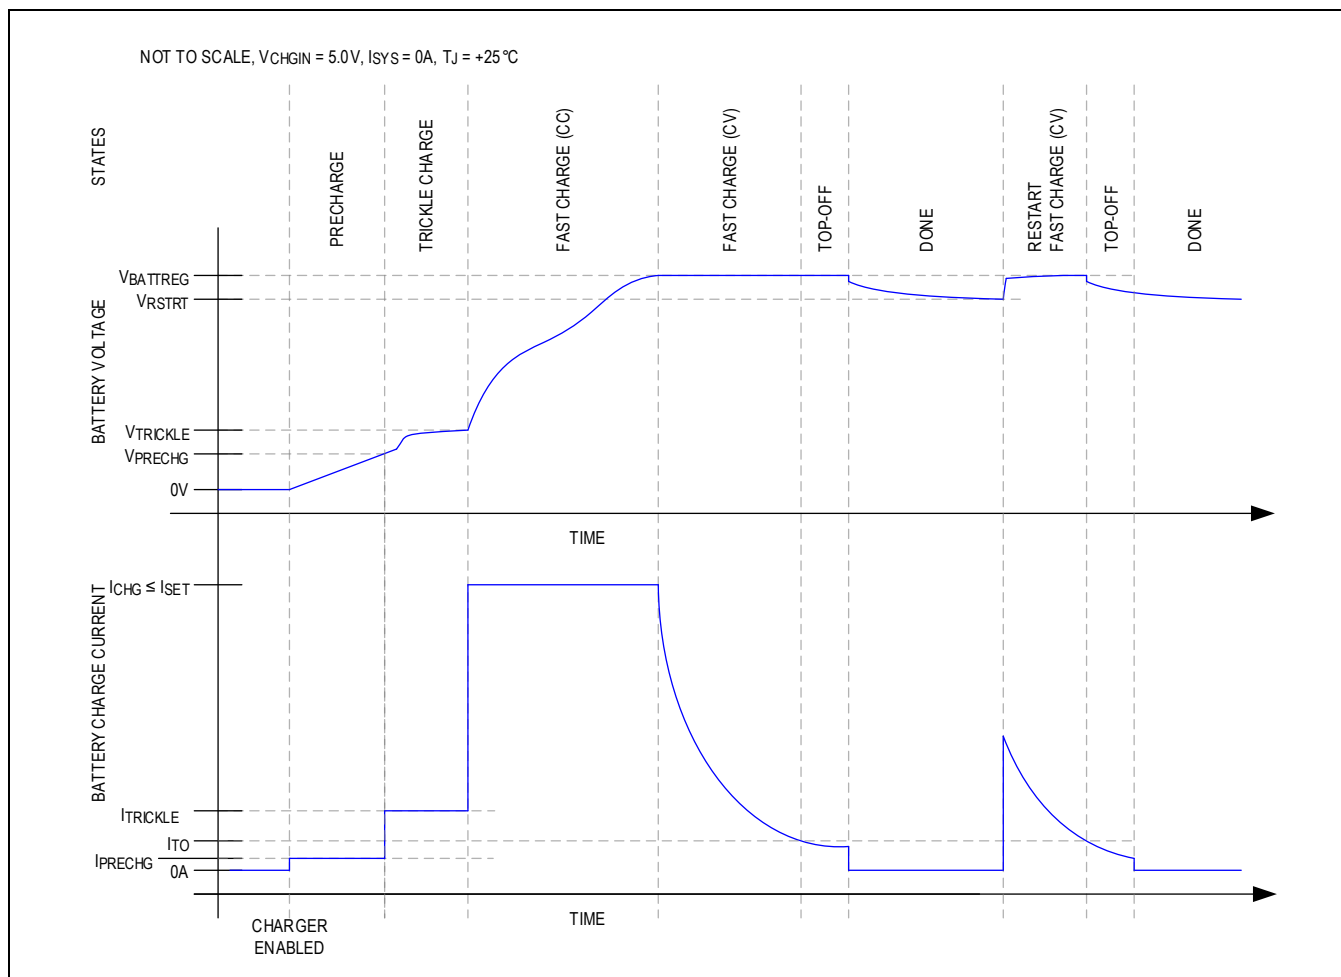
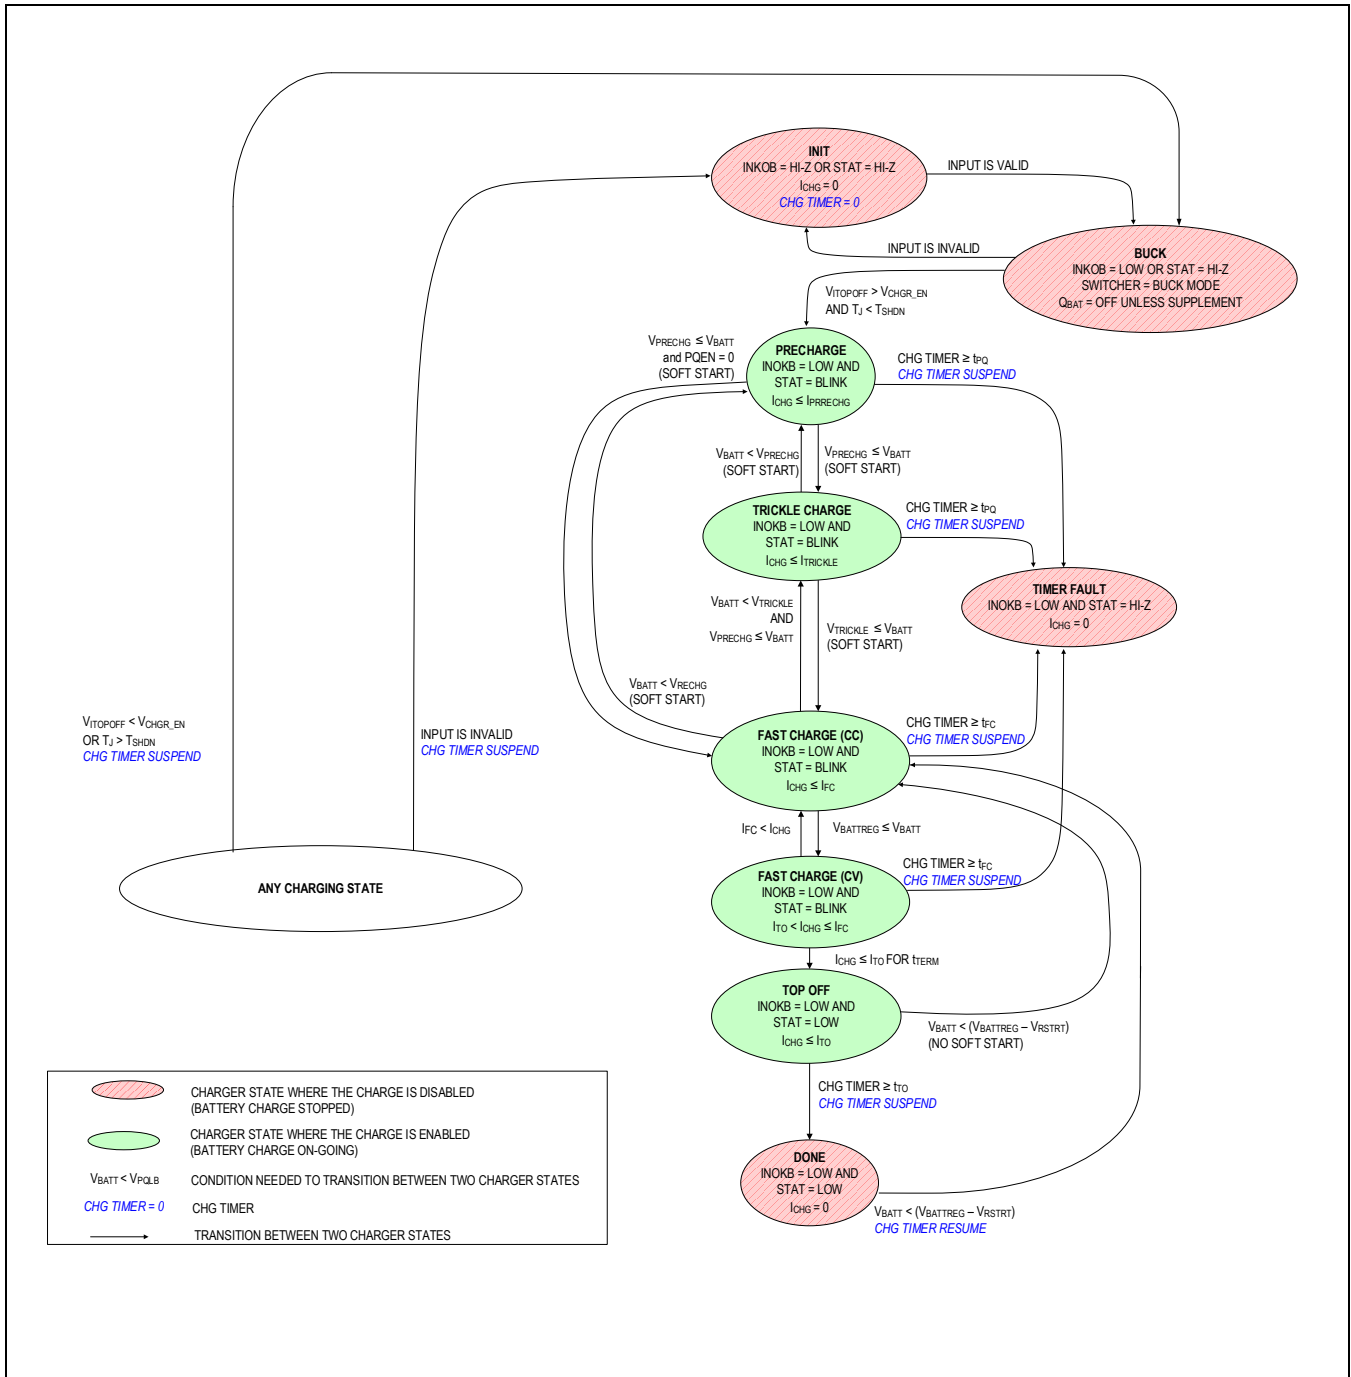

Figure 5. Li+/Li-Poly Charge Profile
Figure 6. Charger State Diagram
The MAX77751 utilizes several charging states to safely and quickly charge batteries, as shown in Figure 5 and Figure 6. Figure 5 shows an exaggerated view of a Li+/Li-Poly battery progressing through the following charge states when there is no system load and the die and battery are close to room temperature: precharge → trickle → fast-charge → top-off → done.
From any state shown in Figure 6 except thermal shutdown, the INIT state is entered whenever the charger inputs that CHGIN is invalid or the charger timer is suspended.
The chip has a state where battery charging is disabled while the charger input CHGIN is valid. The state is called buck state. Entering or leaving buck state is controlled by the voltage of the ITOPOFF pin. If the voltage of this pin is pulled down by an external device (i.e., MCU) under  $V_{CHGR\_EN}$ , the chip goes to the buck state from any state if CHGIN is valid, as shown in Figure 6. In the buck state, charging is disabled, which means  $Q_{BAT}$  is off, unless it is in supplement mode. If the voltage of this pin is over  $V_{CHGR\_EN}$ , the chip gets out of the buck state and resumes charging. Note that only when CHGIN is valid, charging can be enabled or disabled. Therefore, the external device (i.e., MCU) should check using the INOKB signal if CHGIN is valid before trying to enable or disable charging.
As shown in Figure 6, the precharge state occurs when the battery voltage is less than  $V_{PRECHG}$ . In the precharge state, charge current into the battery is  $I_{PRECHG}$ .
As shown in Figure 6, the trickle charge state occurs when  $V_{BATT} > V_{PRECHG}$  and  $V_{BATT} < V_{TRICKLE}$ .
As shown in Figure 6, the fast-charge constant current (CC) state occurs when the battery voltage is greater than the trickle threshold and less than the battery regulation threshold ( $V_{TRICKLE} < V_{BATT} < V_{BATTREG}$ ).
As shown in Figure 6, the fast-charge constant voltage (CV) state occurs when the battery voltage rises to  $V_{BATTREG}$  from the fast-charge CC state.
In the fast-charge CV state, the battery charger maintains  $V_{BATTREG}$  across the battery, and the charge current is less than or equal to  $I_{FC}$ . As shown in Figure 5, the charger current decreases exponentially in this state as the battery becomes fully charged.
As shown in Figure 6, the top-off state can only be entered from the fast-charge CV state when the charger current decreases below  $I_{TO}$  for  $t_{TERM}$ . In the top-off state, the battery charger tries to maintain  $V_{BATTREG}$  across the battery, and typically, the charge current is less than or equal to  $I_{TO}$ .
As shown in Figure 6, the battery charger enters its done state after the charger has been in the top-off state for  $t_{TO}$ .
The battery charger provides a charge timer to ensure safe charging. As shown in Figure 6, the charge timer prevents the battery from charging indefinitely. The time that the charger is allowed to remain in each of its prequalification states is  $t_{PQ}$ . The time that the charger is allowed to remain in the fast-charge CC and fast-charge CV states is  $t_{FC}$ . Finally, the time that the charger is in the top-off state is  $t_{TO}$ . Upon entering the timer fault state, STAT becomes Hi-Z.
In the timer fault state, the charger is off. The charger input can be removed and re-inserted to exit the timer fault state (see the “any state” bubble in the lower left of Figure 6).
As shown in Figure 6, the thermal shutdown state occurs when the battery charger is in any state and the junction temperature ( $T_J$ ) exceeds the device’s thermal shutdown threshold (TSHDN). When  $T_J$  is close to  $T_{REG}$ , the charger folds back the charge current to 0A so that the charger is effectively off (see the Thermal Foldback section).